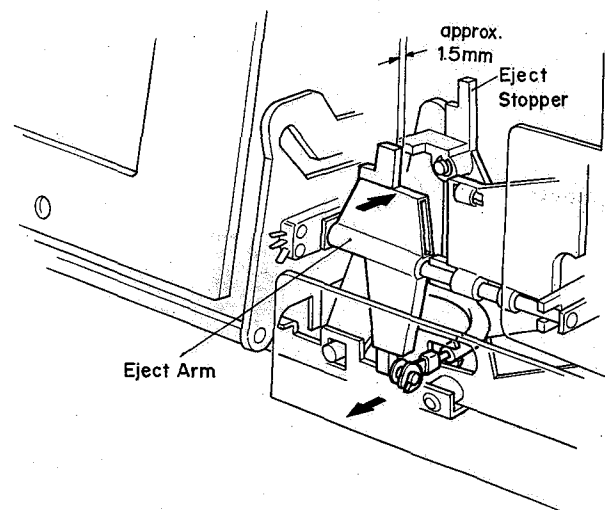

Fig. 5.19.1
- (1) Referring to Fig. 5.19.1, insert a 1.5 mm spacer between the Eject Arm and Eject Stopper by turning the Eject Arm in the illustrated direction, then set the N-481 in playback mode.